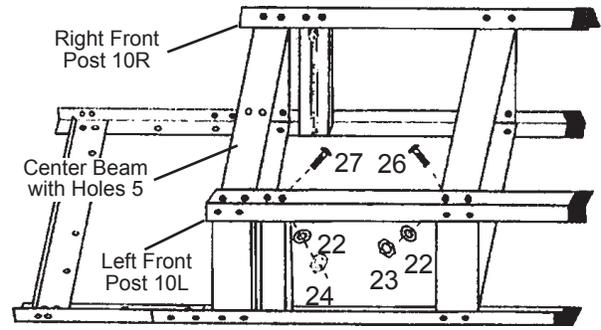

Fig. 4
- Attach the Left Front Post (10L) to the Left Side Beam (8) and Drawer Mount with Glide Rail (9), repeat with the Right Front Post (10R). Attach Center Beam With Holes (5), to the front, using Bolts (26, 27), Washers (22), and Nuts (23, 24). (See Fig. 4.)
- At the bottom, attach the Left Front Post (10L) to the Left Side Beam (8) and Bottom Beam (6) using Bolts (26), Washers (22) and Nuts (23). Repeat the procedure using the Right Front Post (10R) for the right side.